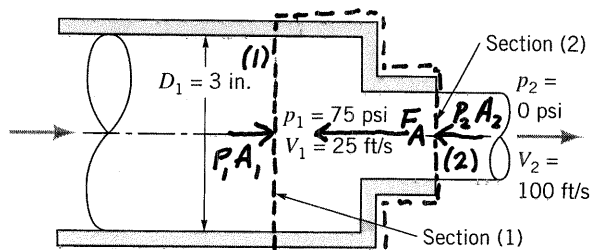

FIGURE P5.30
5.30 Water enters the horizontal, circular cross-sectional, sudden contraction nozzle sketched in Fig. P5.30 at section (1) with a uniformly distributed velocity of 25 ft/s and a pressure of 75 psi. The water exits from the nozzle into the atmosphere at section (2) where the uniformly distributed velocity is 100 ft/s. Determine the axial component of the anchoring force required to hold the contraction in place.